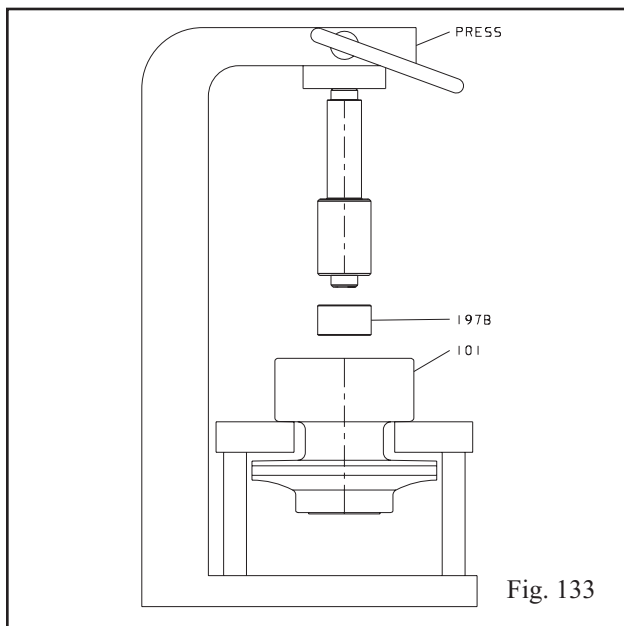

Fig. 133
2. Lubricate the outside of both radial bearings. Press the first radial bearing (197B) into impeller utilizing the bearing installation tool. Support impeller as shown. Line up keyway in bearing with key in impeller (Fig. 133).